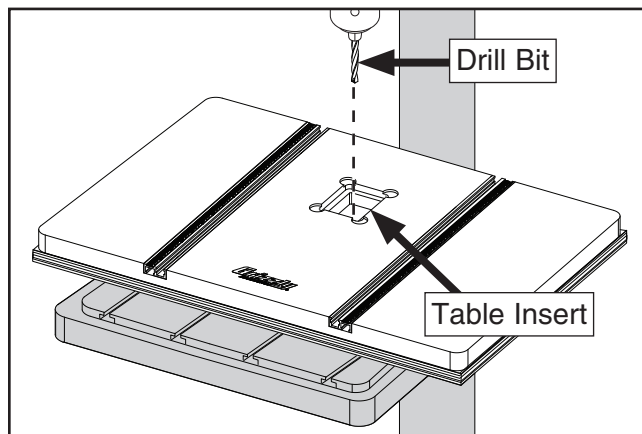

Figure 11. Using drill bit to center Model T32710 table.
6. Install drill bit in drill press and adjust Model T32710 table and plywood together until bit aligns with center of table insert hole (see **Figure 11**).